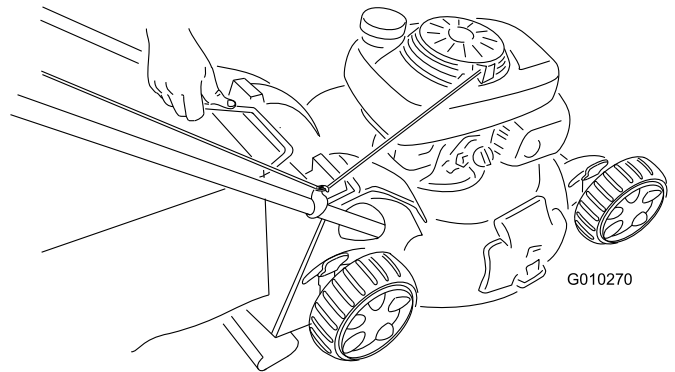

Figure 28
2. Lift the grass-bag handle out from the grooves at the top of the machine (Figure 28).